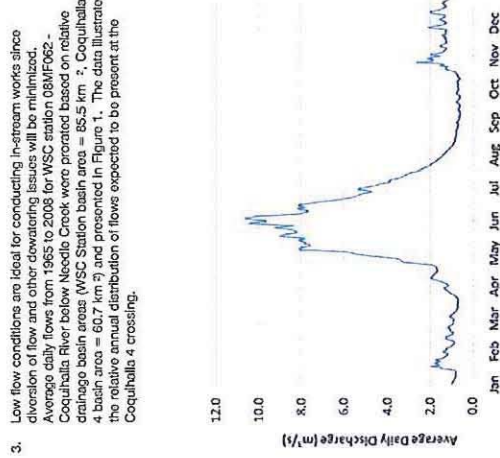

Figure 1. Average daily flow estimate for Coquihalla 4, data was taken from WSC station 08MF062 - Coquihalla River below Nosedle Creek, 1965 - 2008.
- Low flow conditions are ideal for conducting in-stream works since diversion of flow and other dewatering issues will be minimized. Average daily flows from 1965 to 2008 for WSC station 08MF062 - Coquihalla River below Nosedle Creek were prorated based on relative drainage basin areas (WSC Station basin area = 85.5 km²; Coquihalla 4 basin area = 60.7 km²) and presented in Figure 1. The data illustrate the relative annual distribution of flows expected to be present at the Coquihalla 4 crossing.